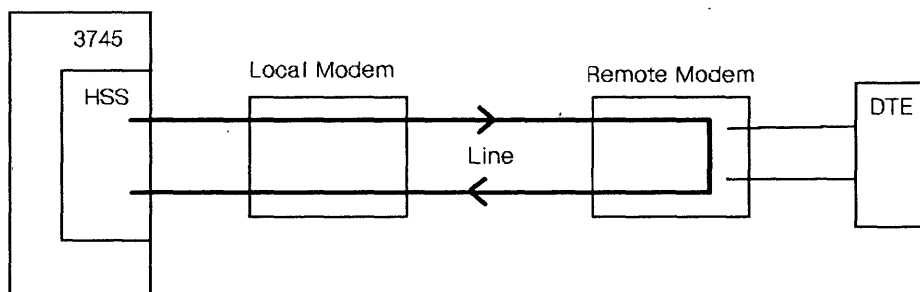

Figure 22-12. Remote Modem Wrap Test (HSS)
- Remote V.35 modem (Figure 22-12 on page 22-9)